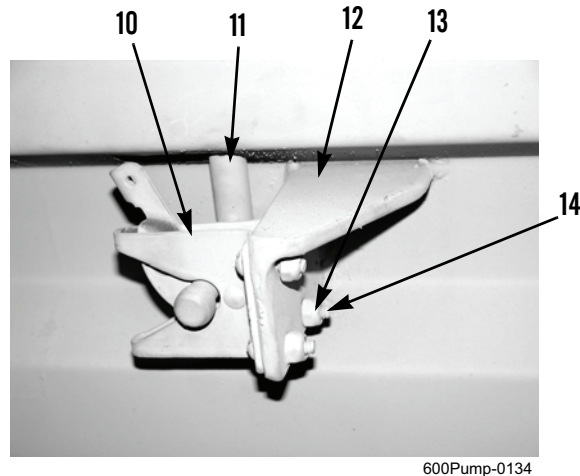

Figure 3. Latch.
1. Remove four locknuts (Figure 3, Item 13) and bolts (Figure 3, Item 14) from latch (Figure 3, Item 10) and latch mounting bracket (Figure 3, Item 12). Discard locknuts.
2. Remove latch (Figure 3, Item 10) from lock rod (Figure 3, Item 11) and latch mounting bracket (Figure 3, Item 12).
1. Position latch (Figure 3, Item 10) on latch mounting bracket (Figure 3, Item 12) with lock rod (Figure 3, Item 11) engaged in latch.
2. Install four bolts (Figure 3, Item 14) and new locknuts (Figure 3, Item 13) to secure latch (Figure 3, Item 10) to latch mounting bracket (Figure 3, Item 12).